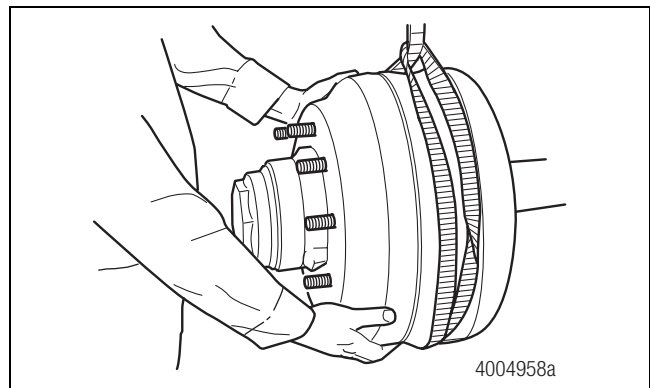

Figure 4.11
4. Release the brakes and remove the brake drum. Figure 4.11.